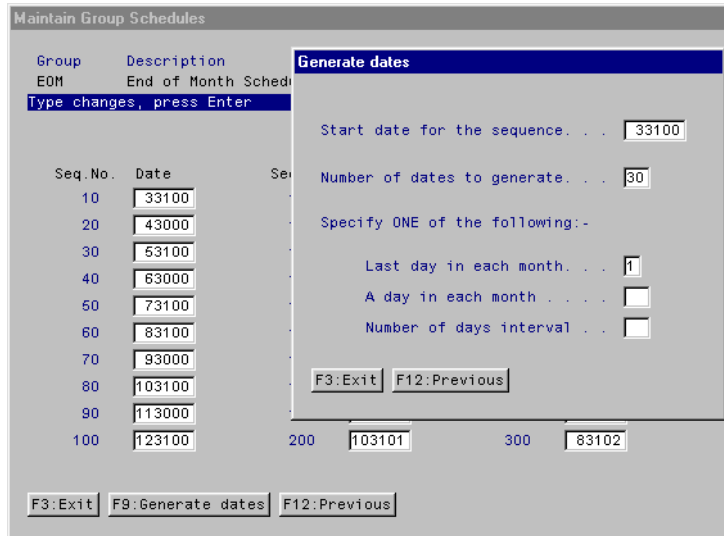

Figure 93. Defining a group schedule
- **Calendar scheduled tasks:** These tasks are executed during the run for ADS or ADE on a specific day of the month. These tasks belong to a group schedule that defines calendar dates for when these tasks should run. The calendar can be built manually or by specifying a start date and then an interval for each date thereafter. See Figure 93 on page 152.